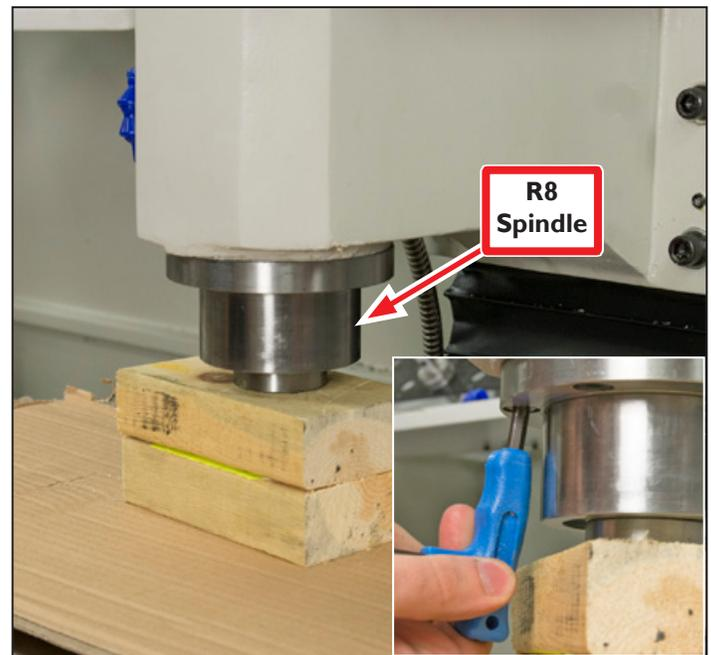

Figure 10
17. Place wood block(s) under R8 Spindle to prevent damage to both spindle and machine table; lower spindle until gentle contact is made with block(s) as shown in **Figure 10**.
**NOTE:** Allow enough space between table and R8 Spindle to allow access to six socket head cap screws (see **Figure 10 inset**).